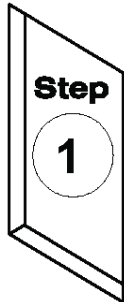

Figure 2 Prepare rough opening.
Step 1. Prepare rough opening and surrounding wall surface. Surfaces should be clean, dry and smooth. The rough opening should not have any gaps, sharp edges or protrusions. There should be no voids, damaged or unsupported areas. Any damage should be repaired prior to installation (see Figure 2).